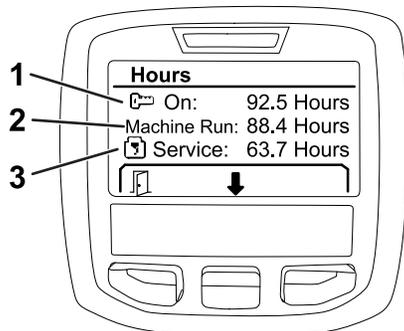

Figure 29
3. Use the counter information displayed on the screen (Figure 29) to determine the following: